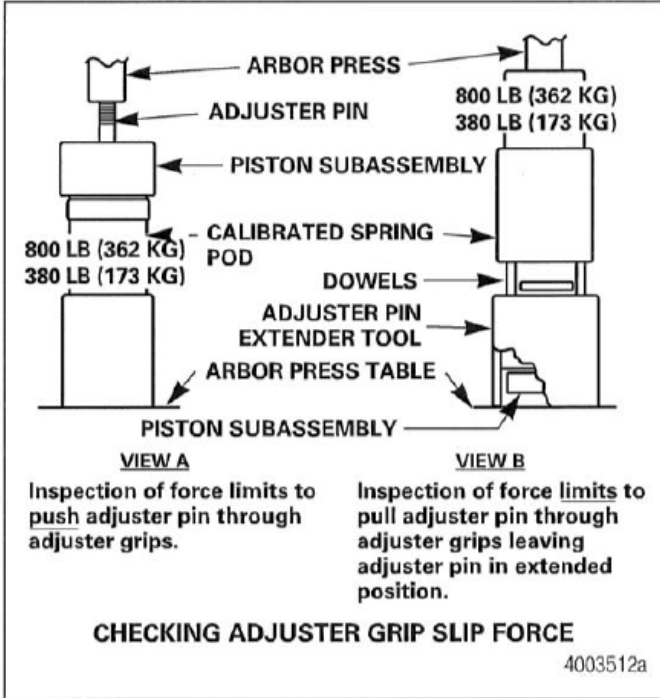

Figure 4.4
- At the arbor press, place the piston assembly on top of the special calibrated spring pod. Slowly lower the arbor to push in the extended adjuster pin as shown in View A, Figure 4.4. The adjuster pin should slip into the adjuster and move downward at a force between 380-800 lbs. (173-362 kg).
- Insert the piston assembly into the adjuster pin extender tool and secure firmly using the knurled nut on the threads of the adjuster pin. Place the special tool and piston assembly under the arbor and drop in three 0.375-inch (9.5 mm) dowel pins as shown in View B, Figure 4.4. Place the calibrated spring pod on top of the dowels.